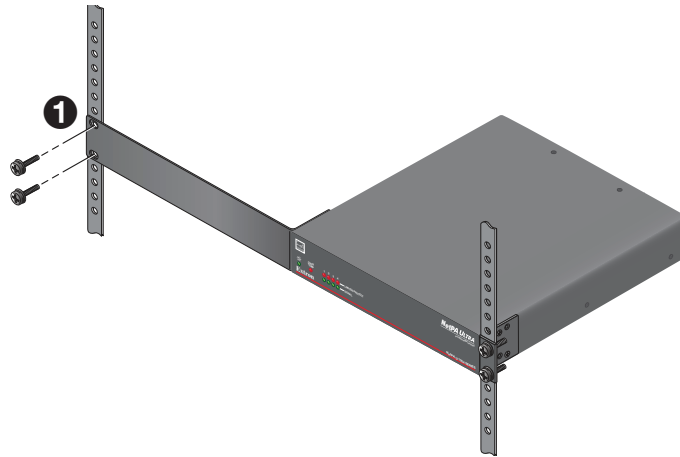

Figure 2. Securing NetPA U 1004 to Rack
4. Secure the amplifier to the rack using the four provided 10-32 x 3/4" screws (see **figure 2, ①** on the next page).